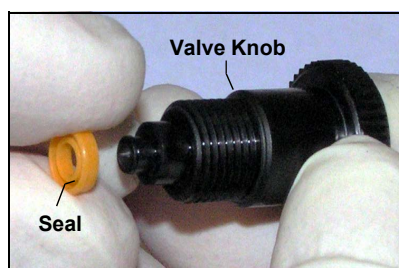

Figure 10-6. Waste Valve Seal Replacement
4. If the waste valve seal is removed with the valve knob in Step 3, pull the seal off the end of the knob (see Figure 10-6).